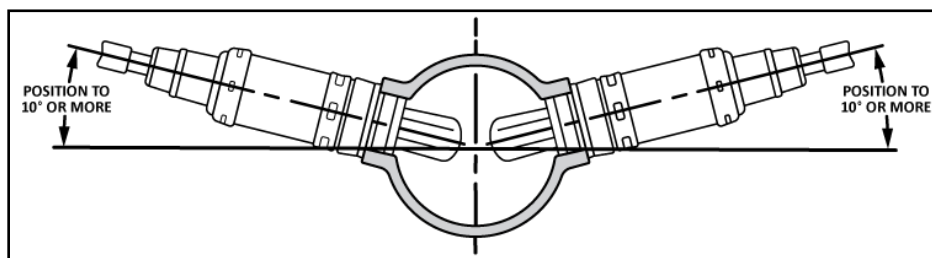

Figure 2
3. Ensure the location for the sensor is at the angle in **Figure 2**. This will help prevent condensation in the exhaust tubing from entering the sensor. The sensor can be mounted on either side of the tubing.